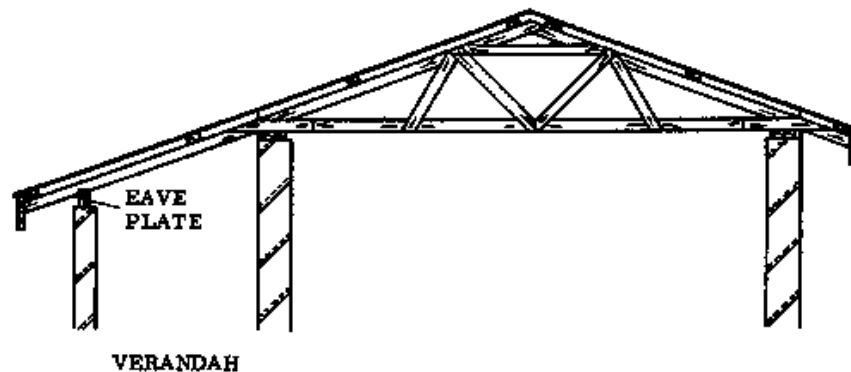

Fig. 2 EXTENDING THE RAFTERS
- By extending the rafters to cover the verandah (Fig. 2).